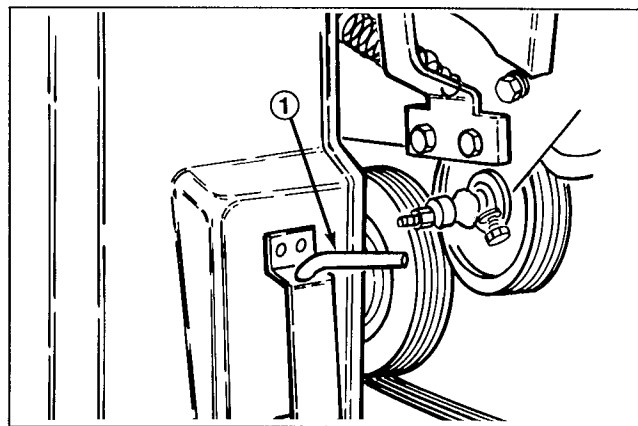

Figure 24
B. Remove override pin from storage bracket on front of coring head cover (Fig. 24).
1. Remove override pin from storage bracket on front of coring head cover (Fig. 24).